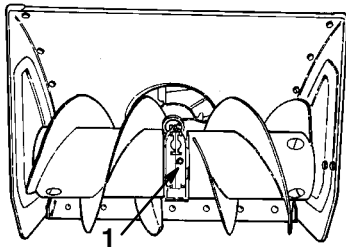

Figure 27
3. Clean the area around the pipe plug (Fig. 27).
4. Remove the pipe plug from the gear box (Fig. 27).